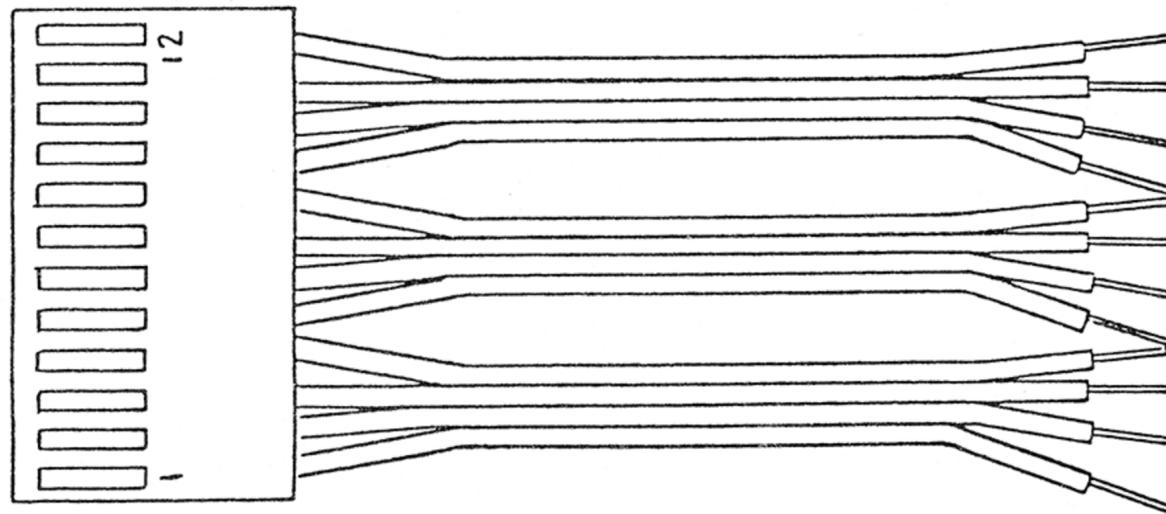

Figure 8-1. Flat-wire
- ° A flat-wire type cable, with female connector (see Figure 8-1) which plugs into a male 12-pin in-line connector on the switch board.